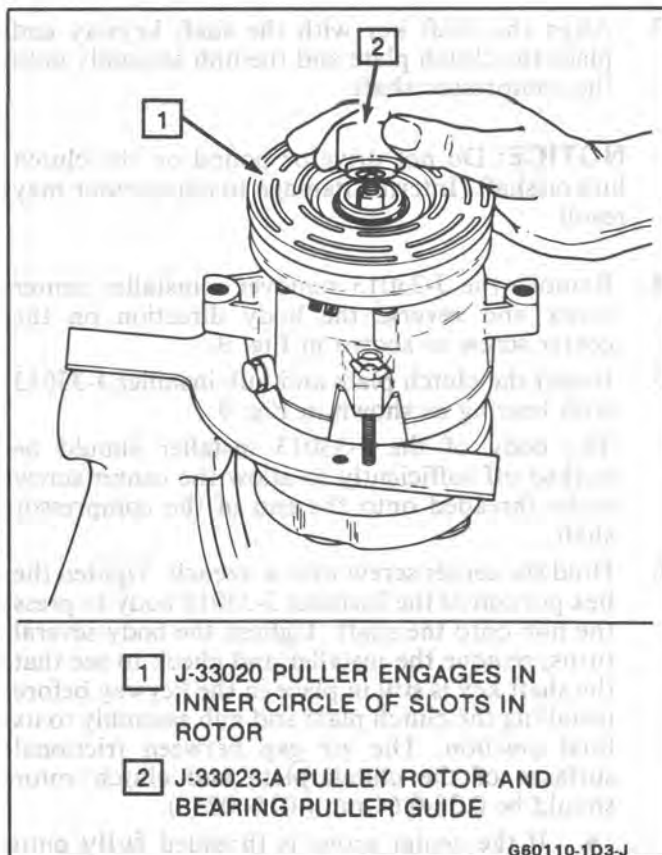
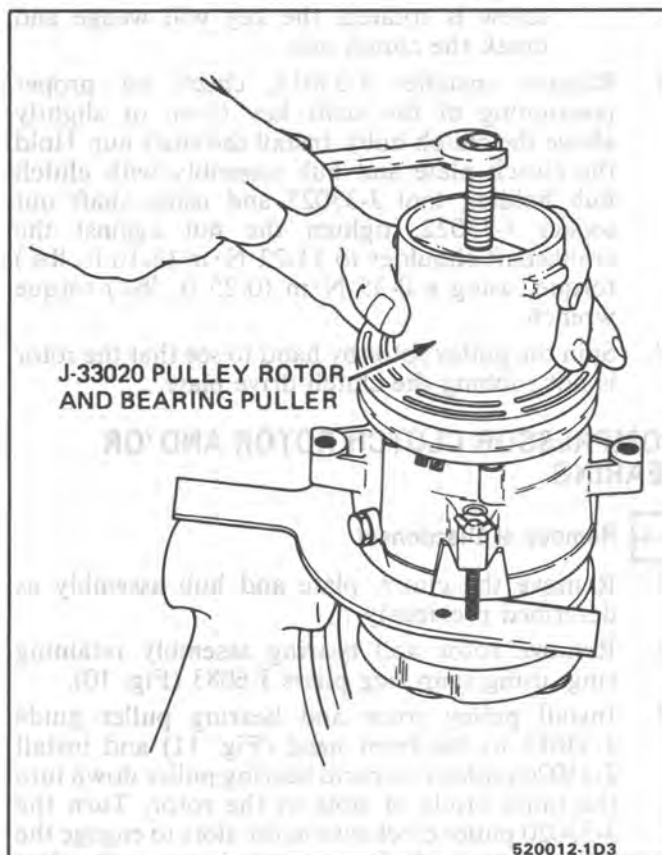

Fig. 11 Installing Pulley Rotor/Bearing Puller Guide
Fig. 12 Removing Pulley Rotor and Bearing As
- Install pulley rotor and bearing puller guide J-33023 to the front head (Fig. 11) and install J-33020 pulley rotor and bearing puller down into the inner circle of slots in the rotor. Turn the J-33020 puller clockwise in the slots to engage the puller tangs with the segments between the slots in the rotor (Fig. 12).
Remove the forcing screw from J-33020 puller and, with the puller tangs still engaged in the rotor slots, invert the assembly onto a solid flat surface or blocks as shown in Fig. 12.